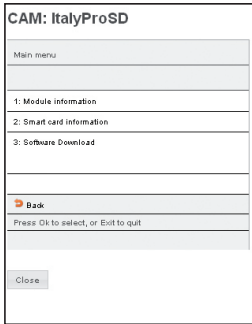

Fig. 6
- COMMON MENU INTERFACE: to access the common interface menu (only enabled if the CAM supports the menu) (see fig. 6);
The figure 6 shows the window which opens clicking the "COMMON INTERFACE MENU" key. Information is given about the CAM module, the Smart Card and the last release of the CAM software can be downloaded if it is available.